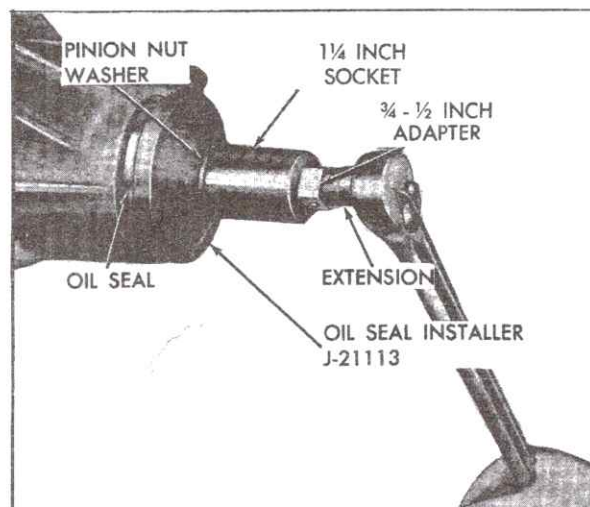

Fig. 4-42 Installing Pinion Oil Seal
2. Using 1-1/4 inch socket, 3/4 to 1/2 inch adapter and extension, press oil seal into carrier by tightening pinion nut, Fig. 4-42, until Installer Tool bottoms on face of carrier. When installed seal case will protrude approximately 3/32 inch from machined face of carrier.